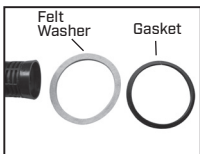
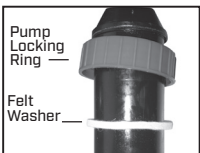

Figure 5
Figure 6
6) Pressure Chamber Housing Gasket and Felt Washer: Slide both the gasket and felt washer off the pressure chamber body (Figure 5). Replace felt washer first taking care not to fold over washer as it is worked up the pump chamber and into the pump locking ring (figure 6). The felt washer is pre-lubricated to provide lubrication between the pressure chamber housing and pressure chamber housing gasket. Elnsure the felt washer is free of contamination before installing. Replace gasket into the pump opening in the tank insuring the flanged end is up (if this is assembled backwards leakage will occur) (Figure 7). Insure that the sides of the gasket are inside the tank pump opening and the flange is sitting level on the tank pump opening seal surface area.